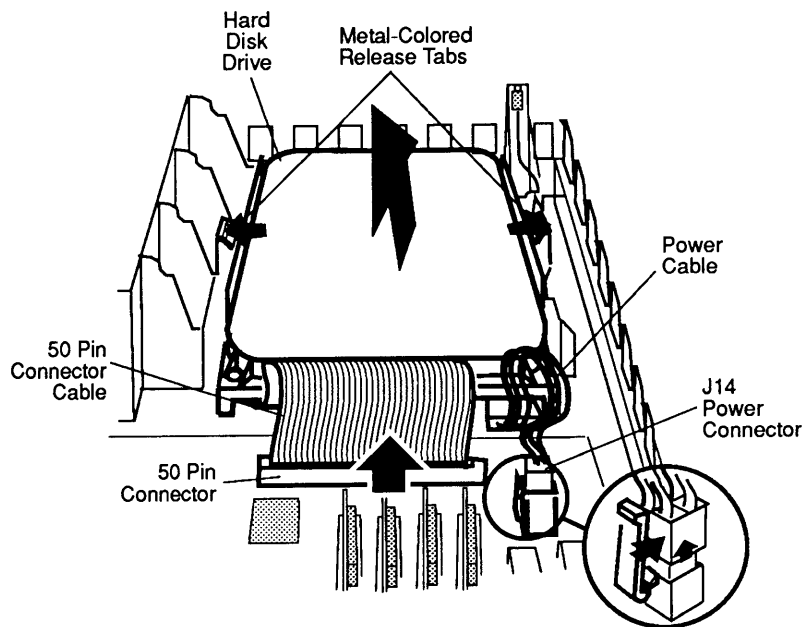

Figure 2-6 Hard Disk Drive
2. Disconnect the power cable from connector J14 on the logic board (**Figure 2-6**). This connector has a locking tab that you must release in order to remove the cable.
3. Disconnect the 50-pin connector from the logic board (**Figure 2-6**). You may have to gently rock the cable from side to side to release the cable.
4. Release the two metal-colored tabs (**Figure 2-6**), one on each side of the hard disk drive, and lift the drive (with its carrier) out of the computer.
3. The hard drive goes over the speaker, with the carrier side down and the connectors facing the rear of the computer. Position the hard disk drive so that the metal tabs on the carrier align with the plastic release tabs on the bottom case (**Figure 2-6**).